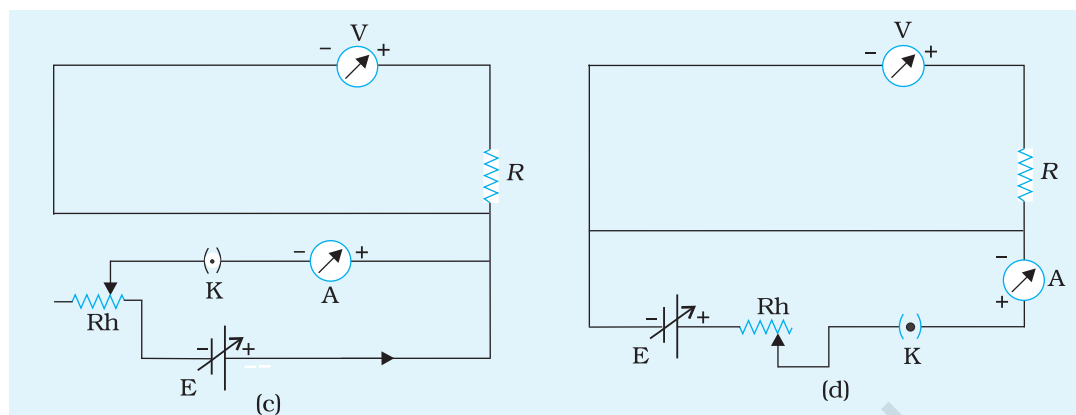

Fig. A 2.1 (a),(b),(c),(d) Open circuits
An open circuit means a break in some part of a circuit which could be deliberate such as a key in open position or a fault such as broken wire or burnt out component(s) or loose connection. Some of such circuits are given in Figs. A 2.1 (a), (b), (c) and (d).
1. Draw the circuit diagrams in your notebook as given by your teacher [Fig. A 2.1 (a), (b), (c) and (d)].